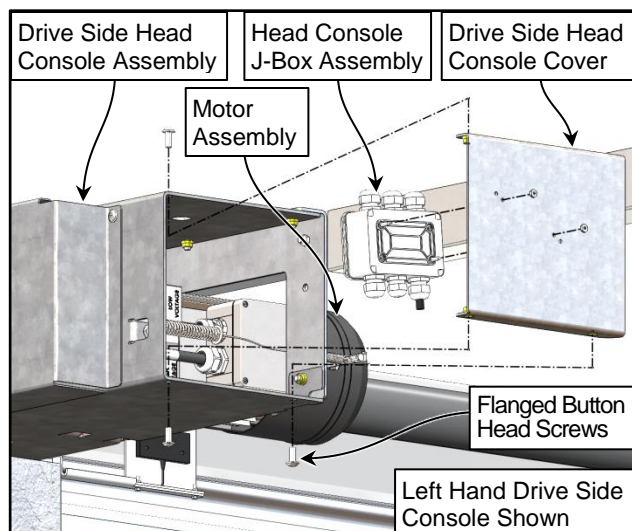

Figure 20
- Remove the drive side head console assembly cover from the door head console assembly located as shown. (See Figure 20)